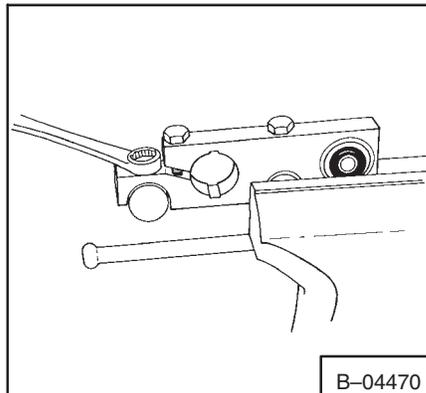

Fig. 3-18 Pintle Lever Lobes
1. Remove the lobes from the pintle lever (Fig. 3-18).